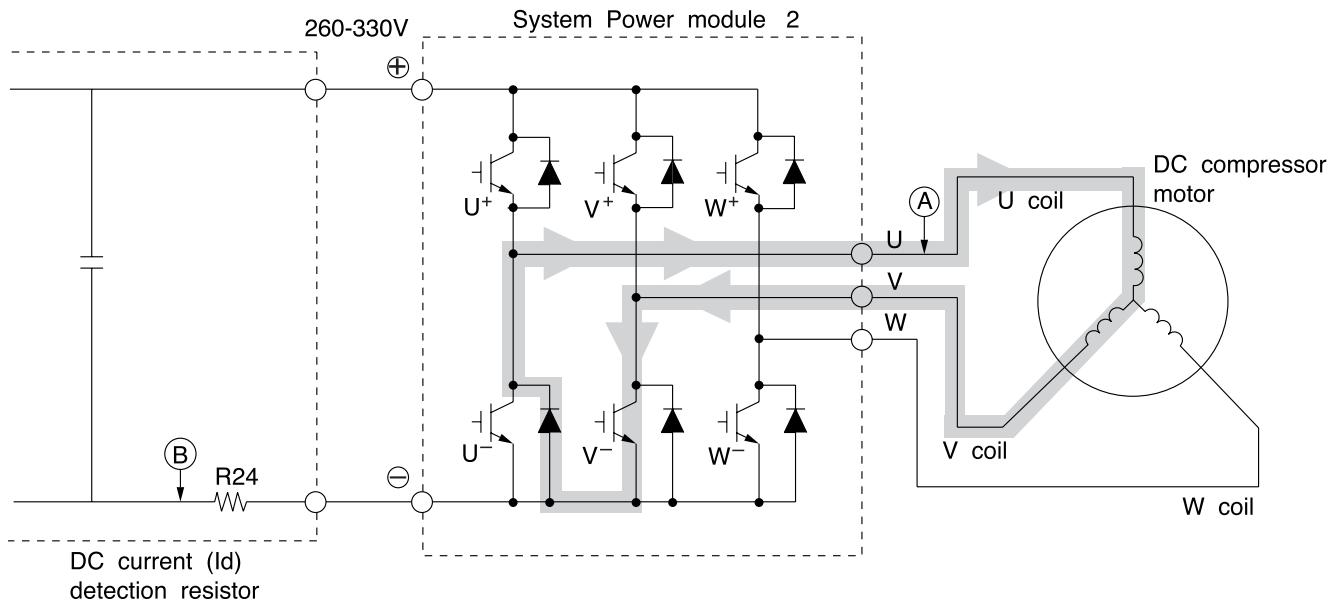

Fig. 3-4 Power module circuit (U^+ is ON, V^- is ON)
At point F: U^+ is chopped (OFF), V^- is ON (circuit in Fig. 3-4)]
- When U^+ transistor is OFF: (by inductance of motor coil) U coil → V coil → V^- transistor → Return diode → Point ① (Fig. 3-4)